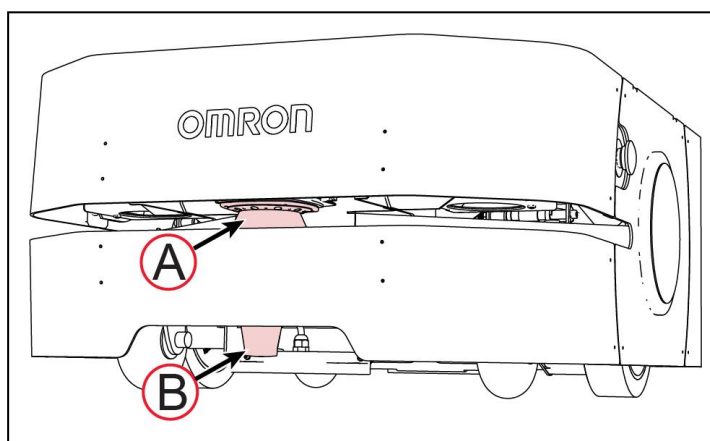

Figure 7-8 LD-250 Lasers
The LD-250 Safety Scanning Laser [(A) in Figure 7-8] is an OMRON OS32C model. It is a precise scanning and navigation sensor with the following characteristics:
The low front laser [(B) in Figure 7-8] detects obstacles below the scanning plane of the safety laser, such as an empty pallet or a human foot. This laser also detects obstacles that might be significantly wider at the base, such as a column plinth, where the main safety laser might detect only the upper portion of the column.